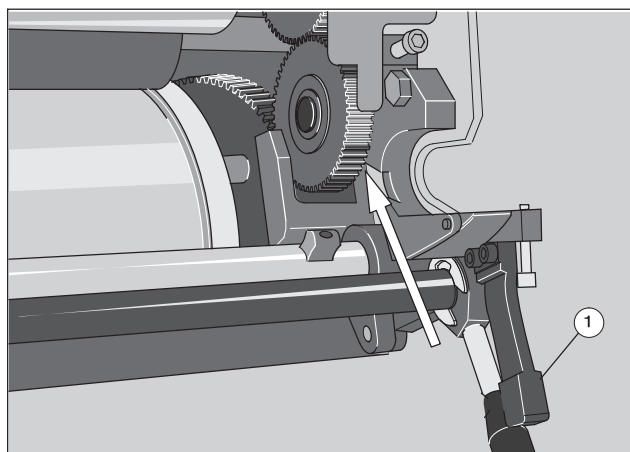

Fig. 58 Adjusting screw of the 1st inking form roller
- 1st inking form roller, **yellow**: after removal of the dampening system accessible between the gear and side frame on D.S. (Fig. 58, arrow); slightly raise swiveling lever (Fig. 58/1) on D.S.